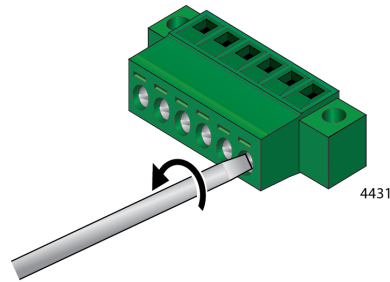

Figure 32. Loosen Power/Alarm Connector Wire Retaining Screws
- Loosen the wire retaining screws for each of the six wire connections on the power/alarm connector with a #1 screwdriver as shown in Figure 32.